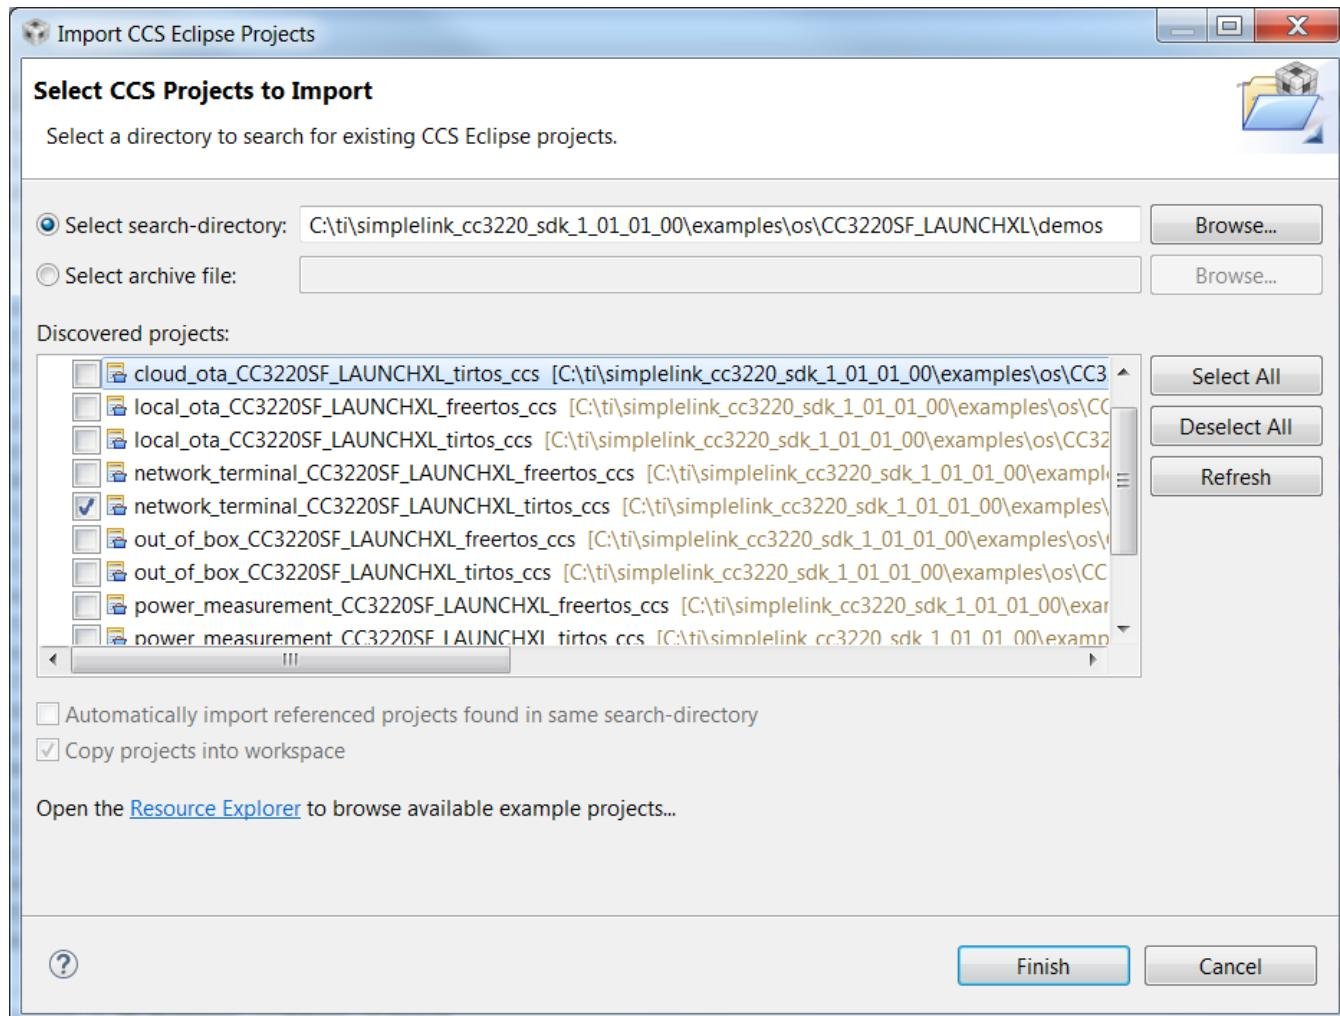

Figure 3-2. Select wlan_station Projects
4. Select the network_terminal_CC3220SF_LAUNCHXL_tirtos_ccs project and click Finish (this will automatically import also the dependent tirtos_builds_CC3220SF_LAUNCHXL_custom_ccs project), as shown in Figure 3-2. For any library import (such as simplink or driverlib), do not check the Copy projects into workspace checkbox. This breaks the link from the libraries to their dependencies. The network terminal project is automatically copied to the workspace.